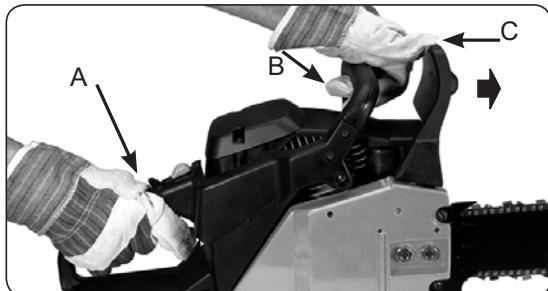

Fig. 8
- Grasp the rear handle (A) with your right hand (Fig 8).
- With your left hand, hold the front handle (B) [not chain brake lever (C), firmly].
- Squeeze the throttle trigger to 1/3 throttle, then immediately activate the chain brake lever (C).